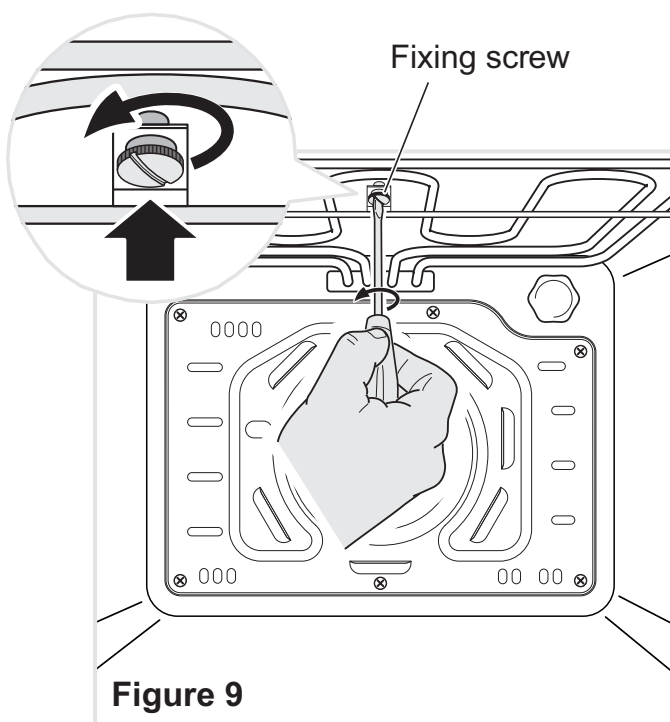

Figure 9
- To lower the grill element: use a flat-head screwdriver or a small coin to loosen the element fixing screw (fig. 9).